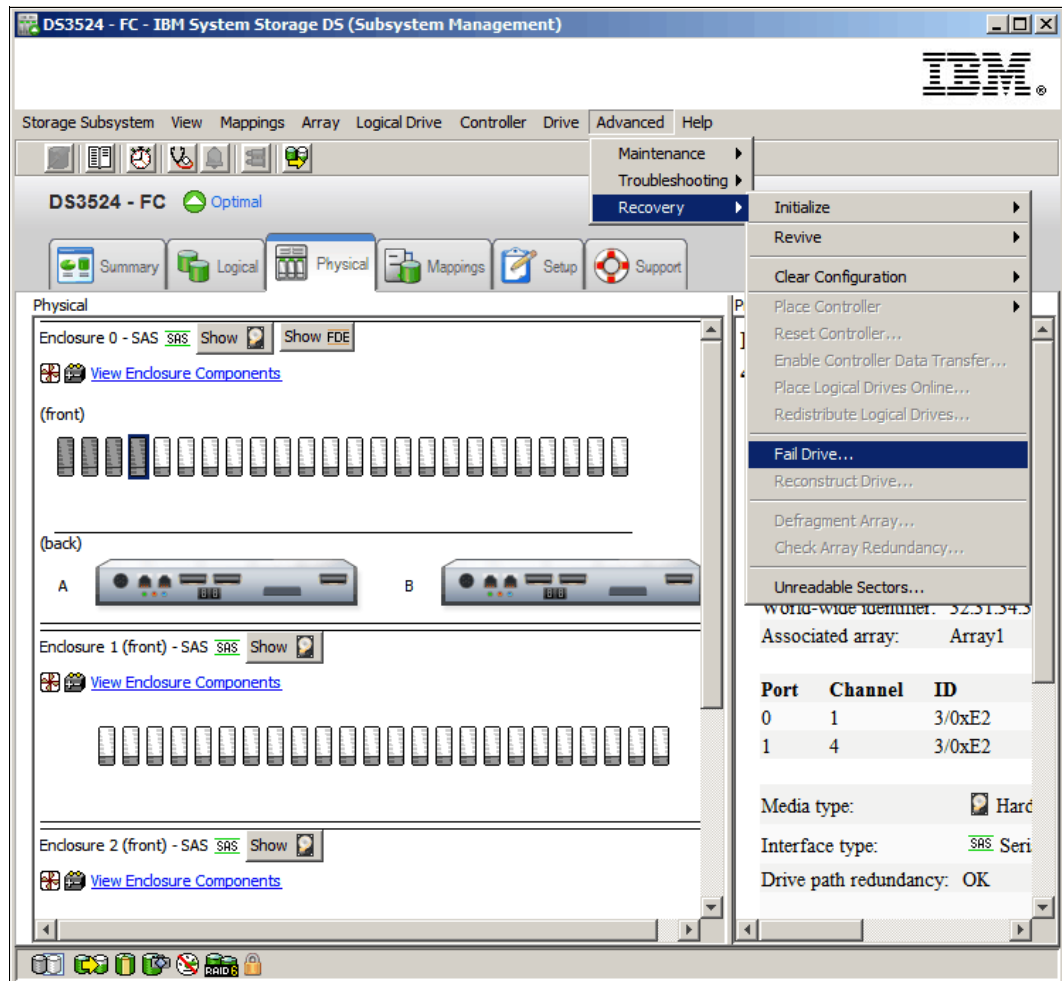

Figure 14-143 Fail Drive
1. Select the drive to be failed in the DS Storage Manager (Subsystem Management) window, and then click **Advanced** → **Recovery** → **Fail Drive** as shown in Figure 14-143 on page 427.